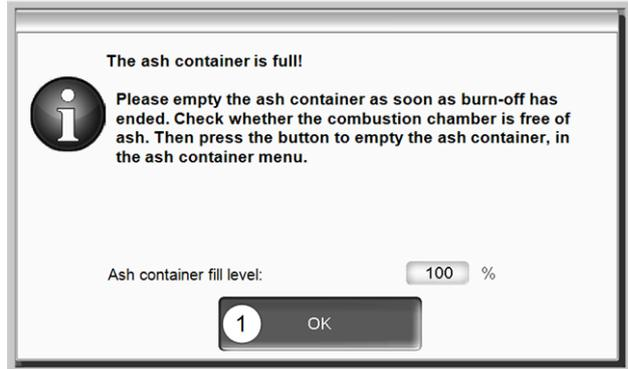

Fig. 2-51
- ▶ Confirm the information message on the display with **OK1** > Fig. 2-51